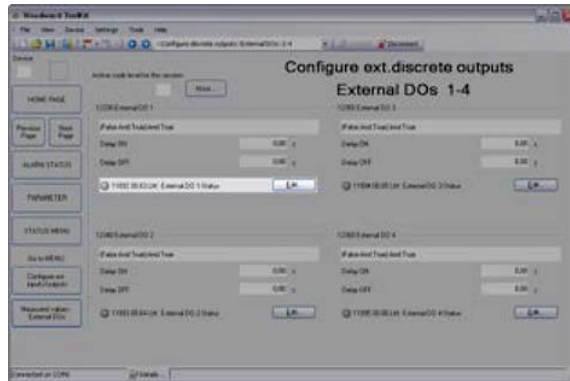

Fig. 237: Setup of external DOs
1. ➔ Set up the external discrete outputs using the ToolKit screen shown in (Fig. 237).